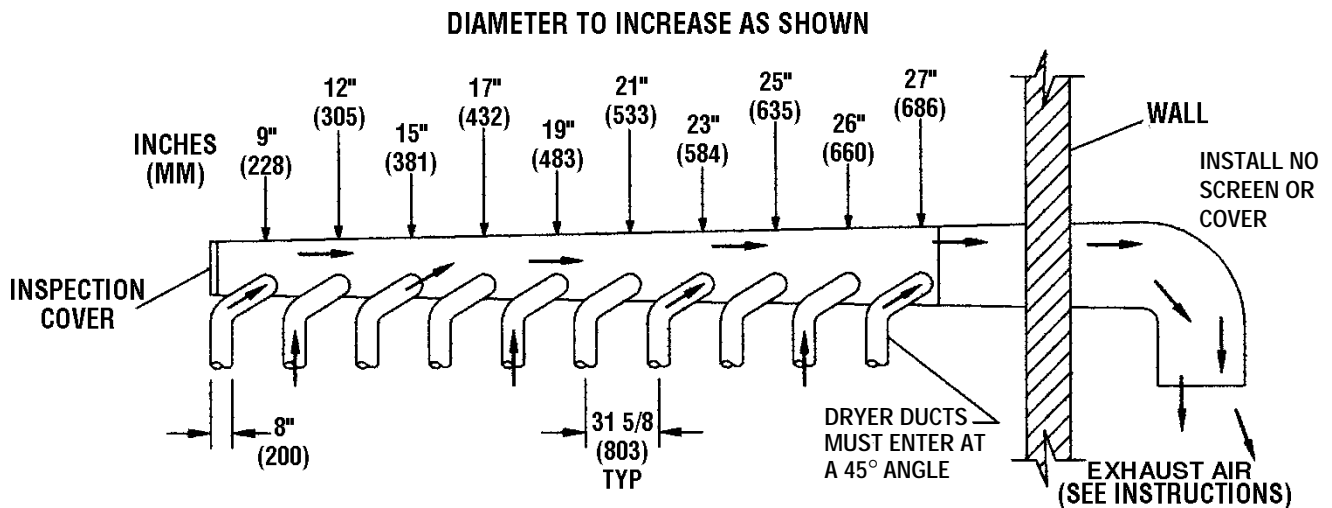

Figure 2 - Dryer Exhausting Using A Main Discharge Duct.
DRYER EXHAUST SYSTEM (Figure 2) .....	6, 7
6. **EXHAUST INSTALLATION.** (Refer to Figure 2 at the end of section 6.) Exhausting of the dryer(s) should be planned and constructed so that no air restrictions occur. Any restriction due to pipe size or type of installation can cause slow drying time, excessive heat, and lint in the room.
Installation of several dryers where a main discharge duct is necessary, will need the following considerations for installation (see Fig. 2). Individual 8" ducts from the dryers into the main discharge duct should be at a 45 degree angle in the direction of discharge air flow.
**NOTE:** Never install the individual 8" ducts at a right angle into the main discharge duct. The individual ducts from the dryers can enter at the sides or bottom of the main discharge duct. Figure 2 indicates the various round main duct diameter to use with the individual dryer ducts. The main duct can be rectangular or round, provided adequate air flow is maintained. For each individual dryer, the total exhausting (main discharge duct plus duct outlet from the dryer) should not exceed the equivalent of 20 feet (6m) and two elbows. The diameter of the main discharge duct at the last dryer must be maintained to exhaust end.